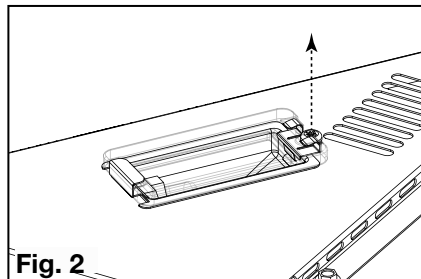
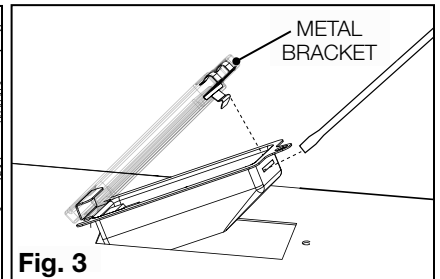

Fig. 2
Fig. 3
- ☐ 4. Remove the screw securing the night light housing in place (**Fig. 2**). Snap the lens out of the housing (including the metal bracket) using a screw driver and set aside (**Fig. 3**).